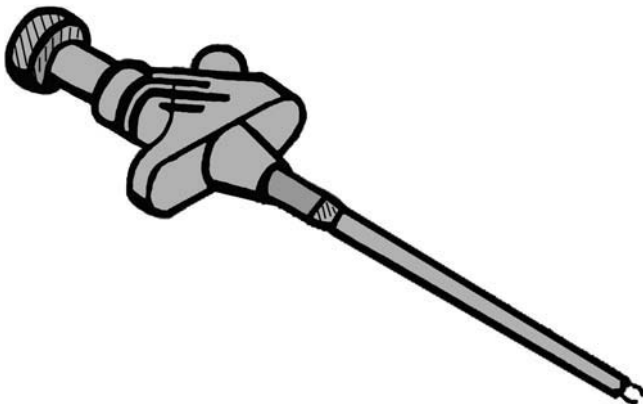

Figure D.15 Ground glass puller (Hirschmann Forceps).
- Ground glass puller (Hirschmann Forceps) (see Figure D.15)